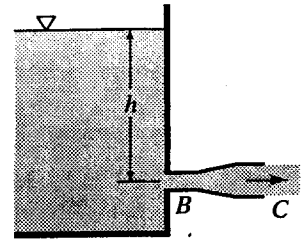

Figure P5.34
- 5.35 Referring to Fig. P5.34, assume the tube flows full and all friction losses are negligible. The diameter at B is 60 mm and the diameter of the jet discharging into the air is 80 mm. If  $h = 5$  m, what is the flow rate? What is the pressure head at B? What would be the flow rate if the tube were cut off at B?